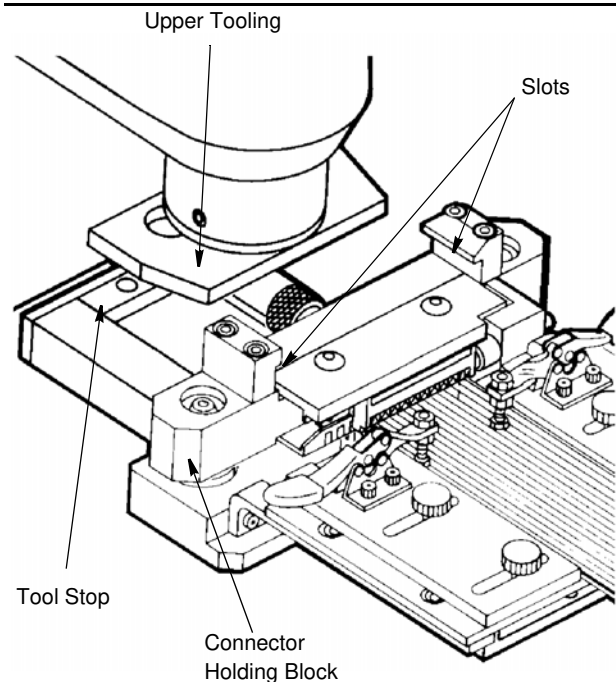

Figure 5
4. Slide lower tooling toward frame until it butts against tool stop in base plate. Upper tooling should enter slots in connector holding block See Figure 5.